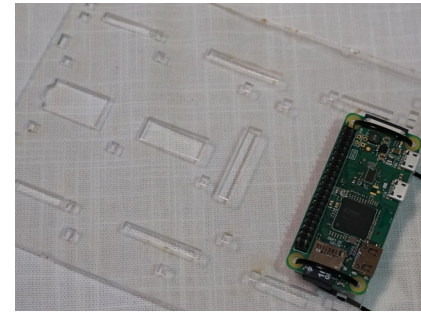

Figure 7
8. **Raspberry Pi:** Align the Raspberry Pi on the top as shown. Secure it to the top with 2 zip ties. (Figure 7)